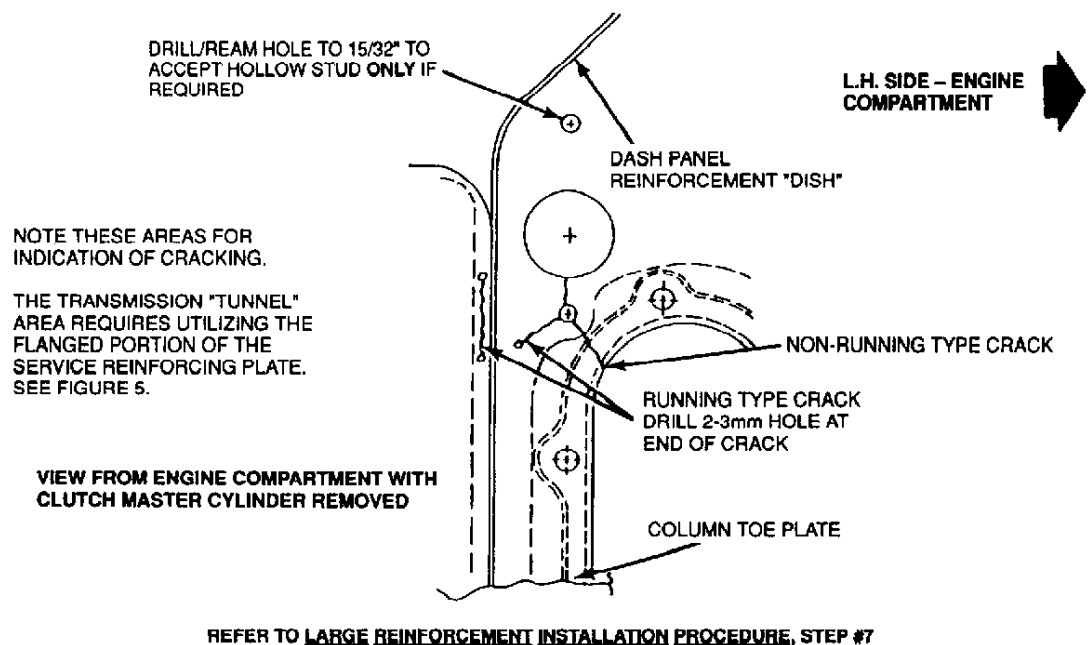

Fig. 8: Repairing Cracks
- c. If there are cracks that have not run out, stop them by drilling a 2-3mm hole at the end, Fig. 8.